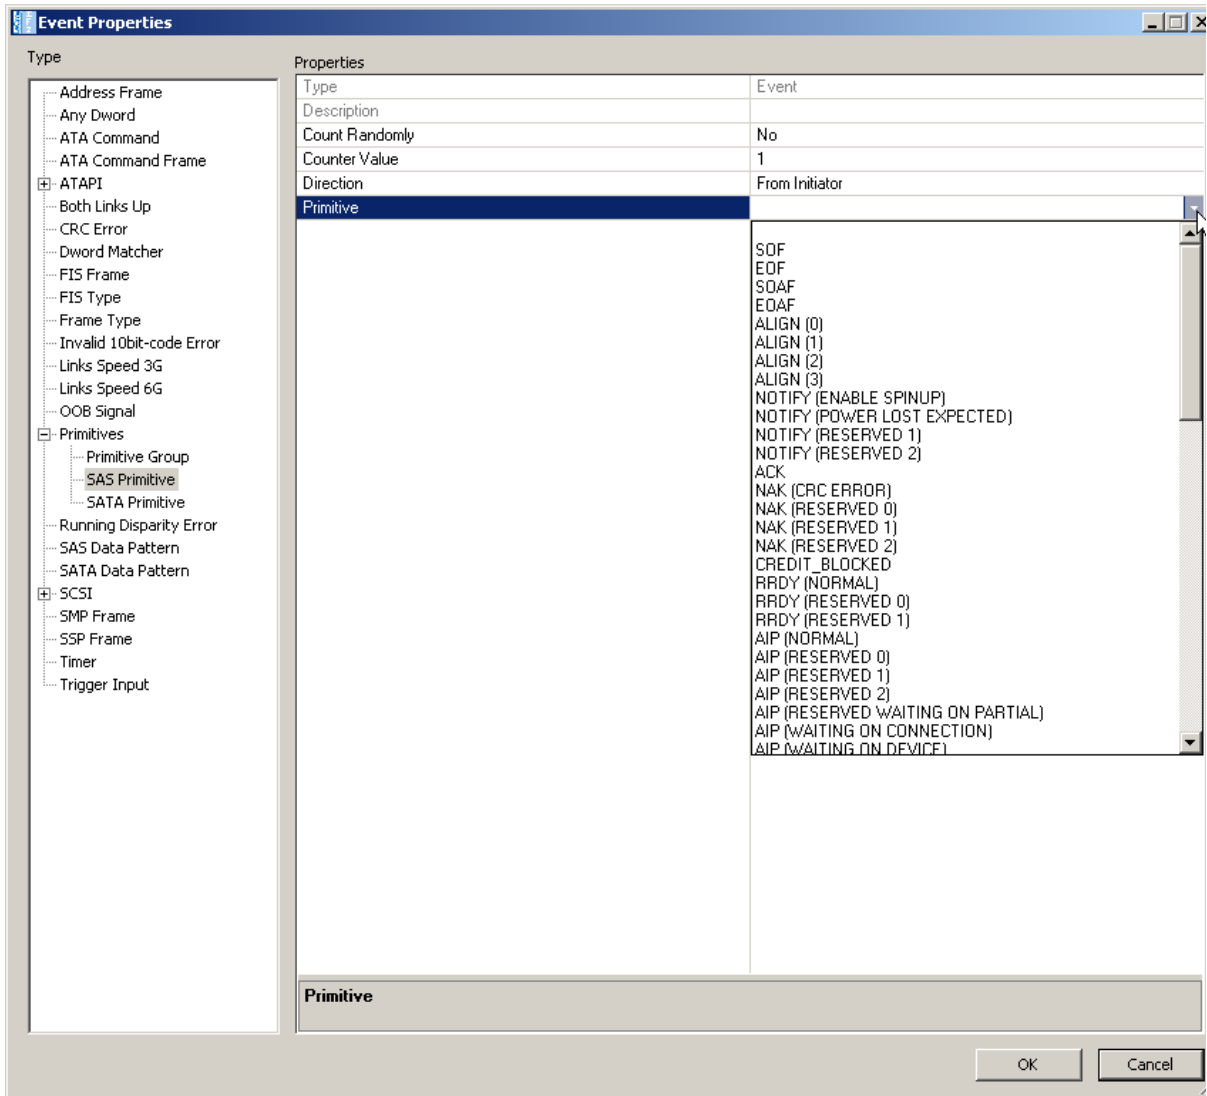

Figure 330 Example 1: Event Drop-Down List
- Step 7** Still in the middle column of the Event Properties dialog box, click **Primitive** to display a drop-down menu that lets you choose the type of primitive for which to substitute for RRDY (Normal) (see Figure 330 on page 265). Choose **ERROR**.